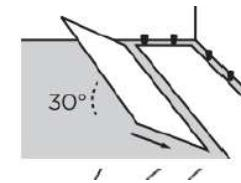

Figure 3
11. Position the first plank of the second row by angling it up slightly, pushing forward and interlocking the side tongue (**Figure 3**). Slide the plank to the left to align the edges of the end joint.